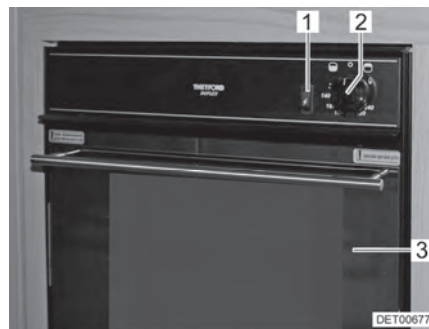
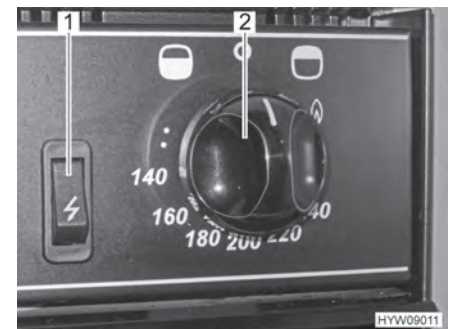

Fig. 123 Gas oven with grill
Fig. 124 Operating controls (gas oven with grill)
- Fully open the oven flap (Fig. 123,3).
- Press the control knob (Fig. 123,2 and Fig. 124,2) and set it to the maximum setting anticlockwise (towards the oven symbol "🍲").
- Press the control knob (Fig. 123,2 and Fig. 124,2) and hold it down for 5 to 10 seconds. Gas will stream into the burner.
- Keep the ignition switch (Fig. 123,1 and Fig. 124,1) pressed until the flame burns.
- Press the control knob (Fig. 123,2 and Fig. 124,2) and turn it clockwise (towards the grill symbol "🍖") in the direction of the flame symbol.
- Turn the control knob (Fig. 123,2 and Fig. 124,2) to "O". The flame fades.